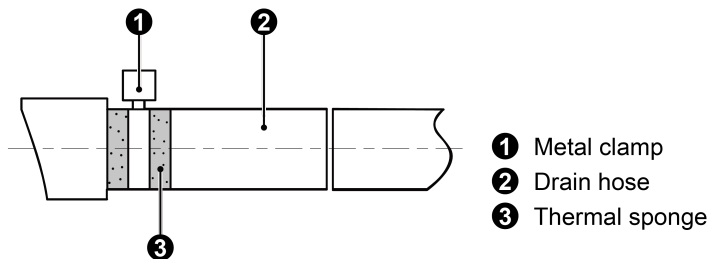
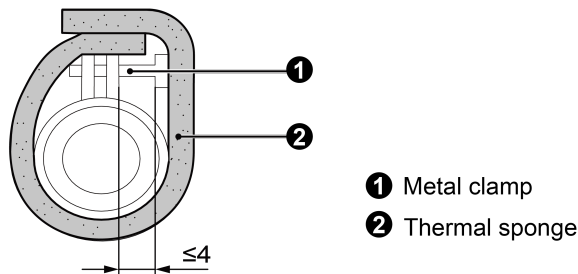

Fig 4.9
Fig 4.10
- (1) Insert the drain hose into the drain hole and tighten it with tapes, as shown in Fig 4.9
- (2) Tighten the pipe clamp, with the distance between screw nut and hose smaller than 4mm.
①metal clamp(accessory) ②drain hose(accessory) ③Grey tape(accessory)
- (3) Use sealing plate to make the pipe clamp and hose insulated, as shown in Fig 4.10
①metal clamp(accessory) ②thermal sponge(accessory)